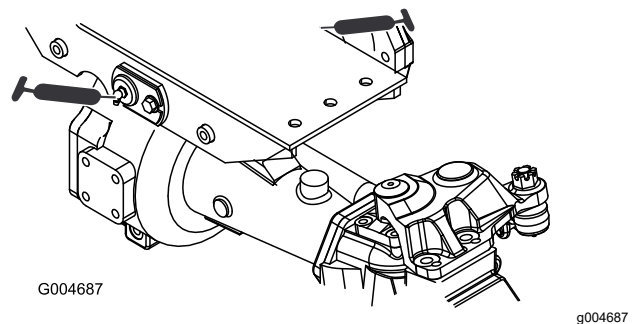

Figure 46
- 2 front and rear-axle-pivot bushings (Figure 46)